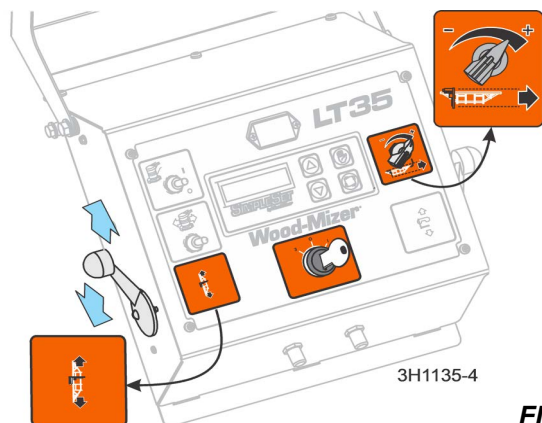

FIG. 3-3
7. Use the carriage forward/reverse switch (left side of control box) to move the cutting head toward the front (hitch end) of the mill. **See Fig. 3-3.**
8. **!** Use the feed control switch (left side of control box) to move the cutting head toward the front end of the mill. **See Fig. 3-3.**